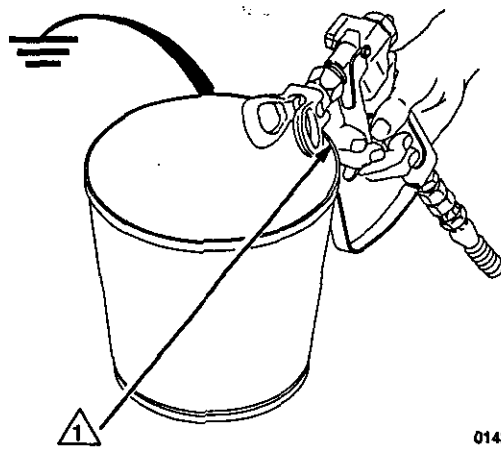

Fig. 11
To reduce the risk of static sparking and splashing, always remove the spray tip from the gun, and hold a metal part of the gun firmly to the side of and aimed into a grounded metal pail when flushing. See Fig. 11.
6. Lower the pressure setting by turning the pressure adjusting knob (B) all the way counterclockwise.
7. Open the pressure drain valve (50). Turn the ON/OFF switch (A) to ON, and slowly increase the pressure setting until the sprayer starts. When solvent is flowing freely, close the pressure drain valve.
8. Hold a metal part of the gun firmly against and aimed into a metal waste container. See Fig. 11. Squeeze the trigger and hold it open until all air is forced out of the system and the solvent flows freely from the gun. Release the trigger and engage the gun safety latch. This procedure helps reduce the risk of static sparking and splashing.